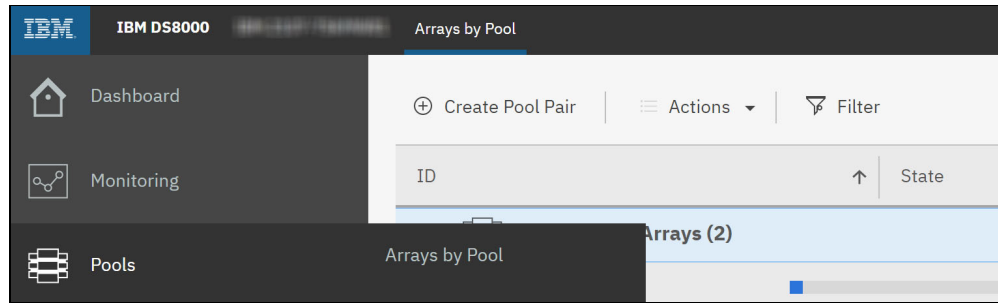

Figure 9-35 Arrays by Pool
1. Click the **Pools** icon and select the **Arrays by Pool** option to open the Array by Pool window, as shown in Figure 9-35.